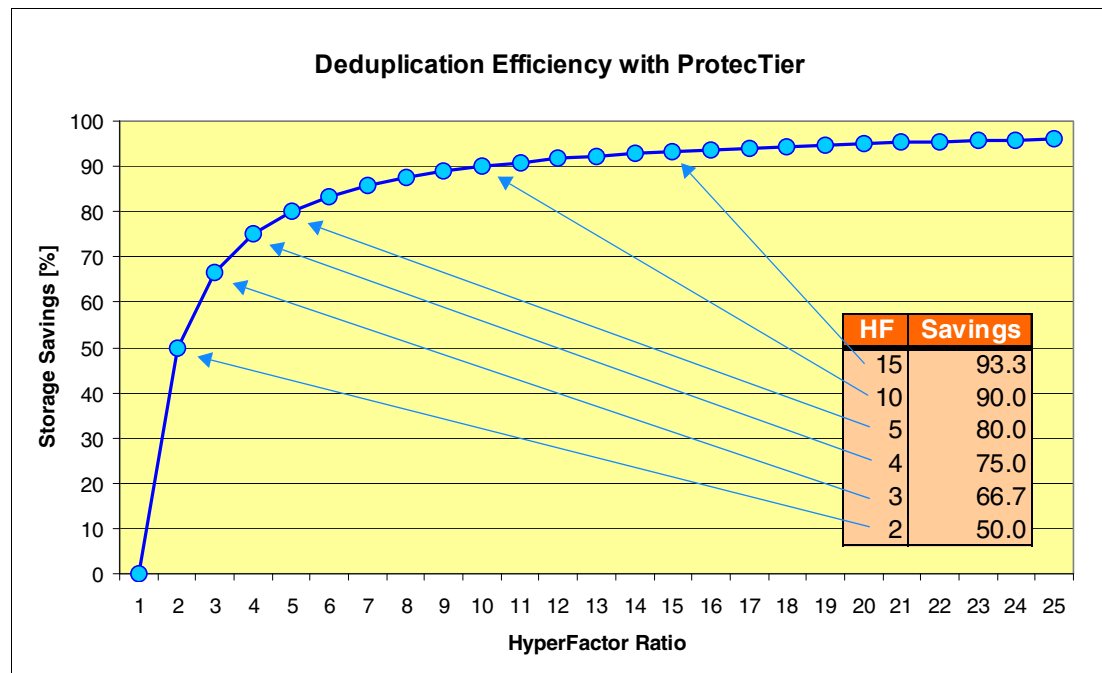

Figure 1-1 Storage savings with ProtecTIER HyperFactor
Figure 1-1 shows the relationship between HyperFactor (HF) processing and the respective storage savings.